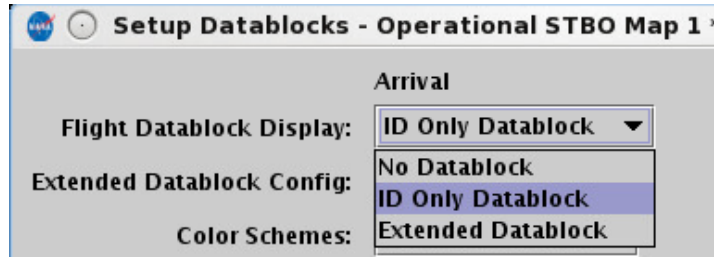

Figure 39. Flight Datablock Display.
**Step 1:** Click on the "Arrival" drop-down menu next to "Flight Datablock Display:" (Figure 39).